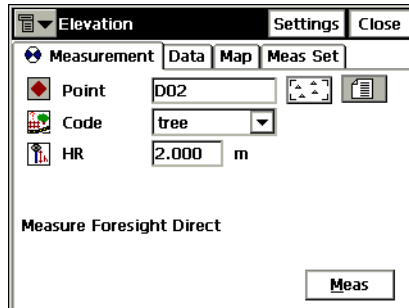

Figure 6-30. Elevation
3. In the **Elevation** screen select the point of known coordinates from the map or from the list (Figure 6-30 on page 6-28).